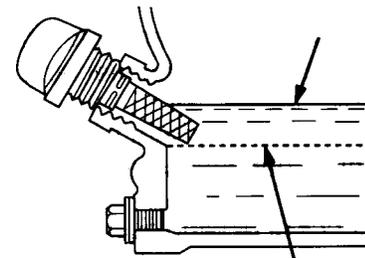

Figure 6. Engine Oil Dipstick (Oil Level)
4. If the oil level is low (Figure 6), fill to the edge of the oil filler hole with the recommended oil type (Table 3). Maximum oil capacity is .45 liters (0.48 quarts).